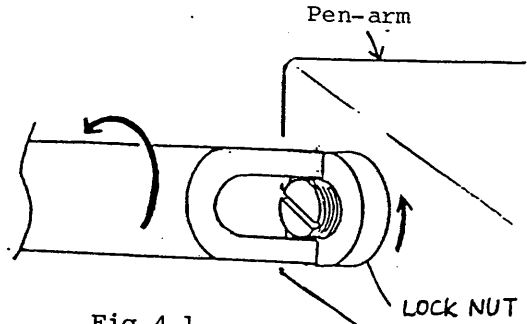

Fig 4.1
- ① Use the outside of the driver Ass'y (U-shaped) to loosen the lock nut as shown in Fig. 4.1.